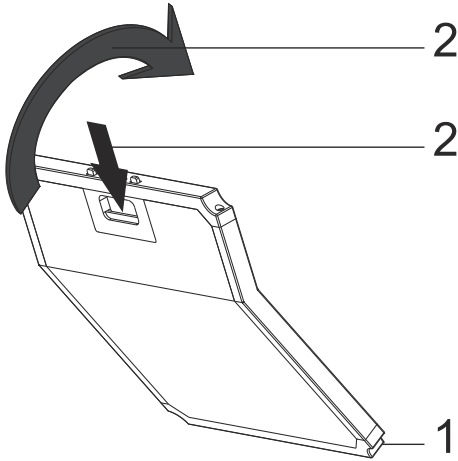

Fig. 6: CARBON FILTER
- 1-Place the lower part of the carbon filter to the motor cabinet.Fig. 6
- 2-Press on the tab of the carbon filter and push it forward, and ensure that the tabs of carbon filter are engaged and locked.Fig. 6